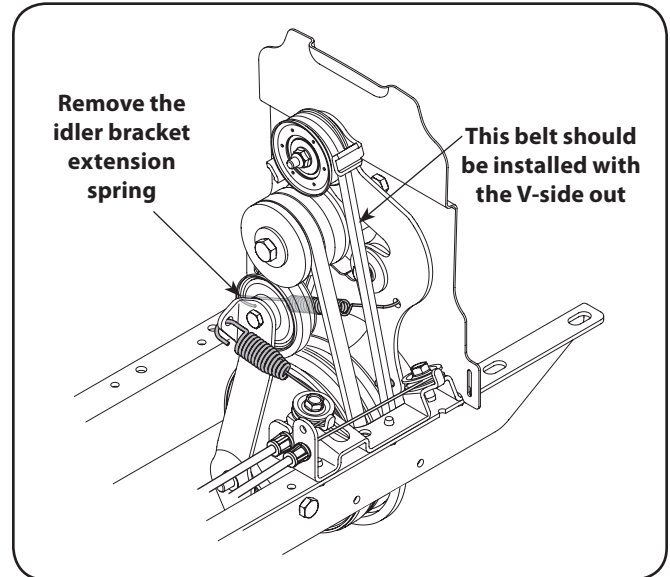

Figure 7-3
4. Remove the idler bracket extension spring, as pointed out in Fig. 7-3. It is recommended to use a pair of needle-nosed pliers, and grab the spring by the end that hooks over the frame. Simply grab it and pull it away from the frame, then up wards and carefully relieve the tension of the spring.